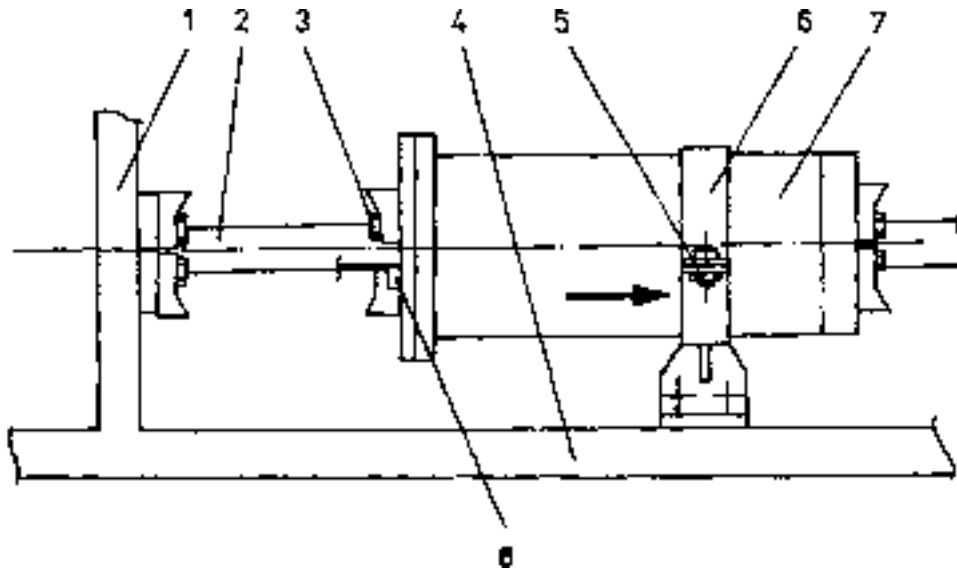

Fig. 5.47. Suction Strainer
5.18.4. SERVICING THE SUCTION STRAINER (Fig. 5.47)
7. Connect the suction strainer to the tubing (2, Fig. 5.47). Insert the O-ring (8) into the flange groove, install the two halves of the collar and secure them with bolts (3).